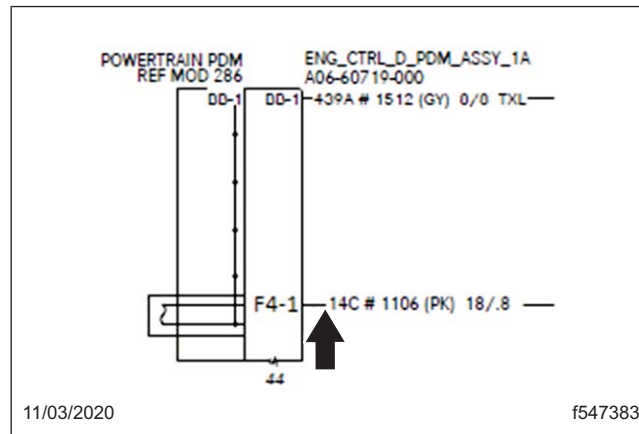

Fig. 6, Add 14C Overlay to Fuse 4 of the PTPDM
- Add one end of the circuit 14C overlay into PTPDM fuse 4. See Fig. 6.